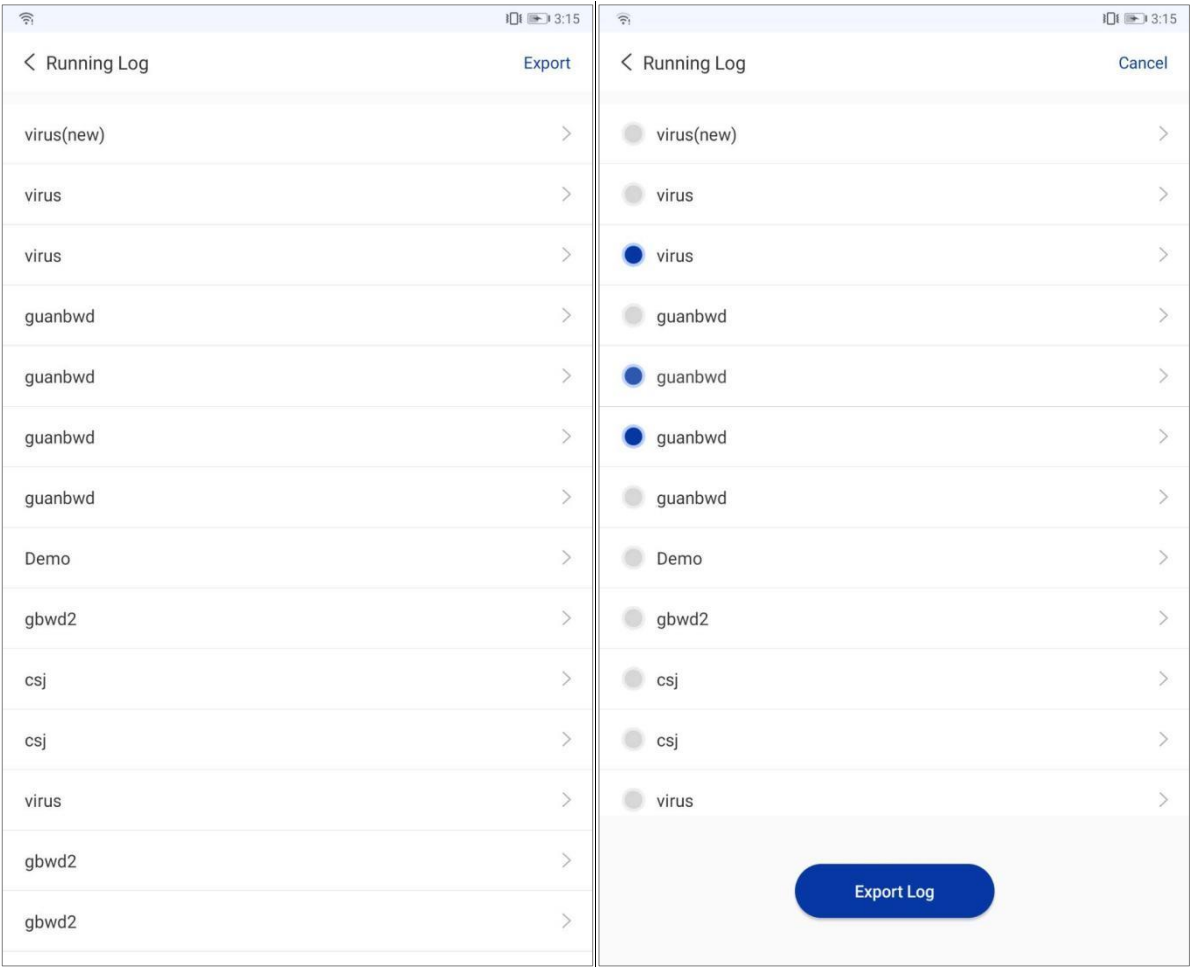

Figure 5-16. Setting Interface – Running Log
4. **Running Log:** the application software can store the running log of each experiment. User can click < **Export** > in the upper right corner of the Running Log interface, select running log and click < **Export Log** > to export it/them to the specified path in the tablet PC, as shown in figure 5-16.